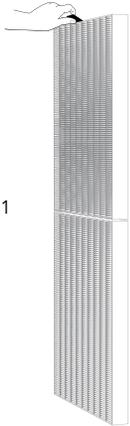

Fig. 1
3. Remove the Plastic Support Filter Frame by pulling on the center tabs (A). You may need to flex the Plastic Support Filter Frame slightly to release the tabs at the top and bottom.
4. Remove and discard the Filters you wish to replace. To remove the Carbon Filter, take hold of the Filter at any place along the perimeter and remove. Repeat on the second Filter. To remove the HEPA Filter, after the Carbon Filters have been removed, take hold of the tab (Figure 1) and pull to release. Repeat on the second Filter. Replace with genuine Vornado Filters. Place the Filters in the unit and gently press around the perimeter of the Filter to ensure secure placement (Figure 2).